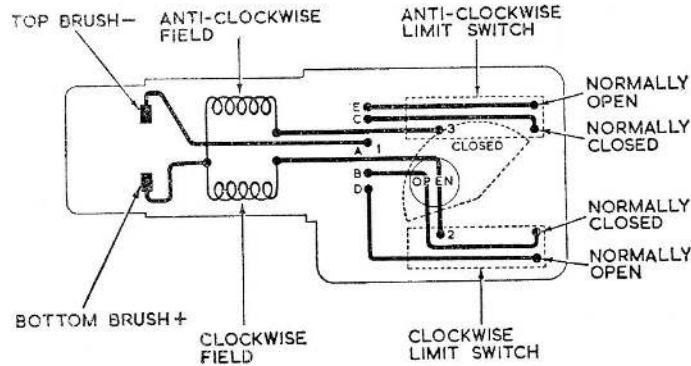

Fig. 3. Schematic wiring diagram
20. The limit switches are screwed to clamping plates, which are in turn secured to the gearbox housing by two screws. One of the screw holes in each clamping plate is slotted to provide adjustment for the switches. The switch operating arm is mounted on a pivot so that it is free to move between the two limit switch plungers. The end of the operating arm connects with the limit switch cam; this cam moves the operating arm to depress one switch plunger for one direction of rotation, and the other switch plunger for the opposite direction of rotation. The resultant effect is to open the circuit at the end of either direction of the output shaft. The normally open contacts of the limit switches are wired to the Breeze plug for use with indicating warning circuits. A schematic wiring diagram is shown (fig. 3).